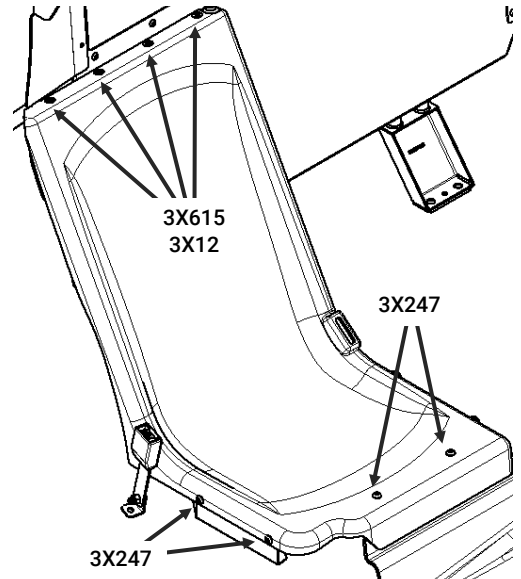

Figure 20
3. Position the Seat on the seat brackets by aligning the (8) holes accessible through the rear passenger door. Loosely install (2) [3X247] 3/8-16X3/4" button head screws vertically at the front of the seat, (2) more [3X247] button head screws transversely along the outside of the seat, and (4) [3X615] #10X3/4" self-drilling torx screws with (4) [3X12] 1/4" washers vertically along the top of the seat (Fig 20). A T25 torx driver will be need to start the [3X615] screws into the Daughter OSB Bar. These fasteners will all be tightened in a later section.